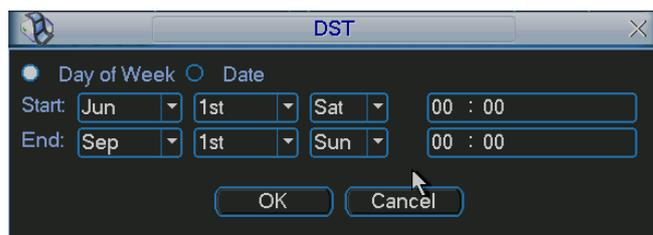

Figure 6-21
- DST: Here you can set DST time and date. Please enable DST function and then click set button. You can see an interface is shown as in Figure 6-21. Here you can set start time and end time by setting corresponding week setup. In Figure 6-21, enable date button, you can